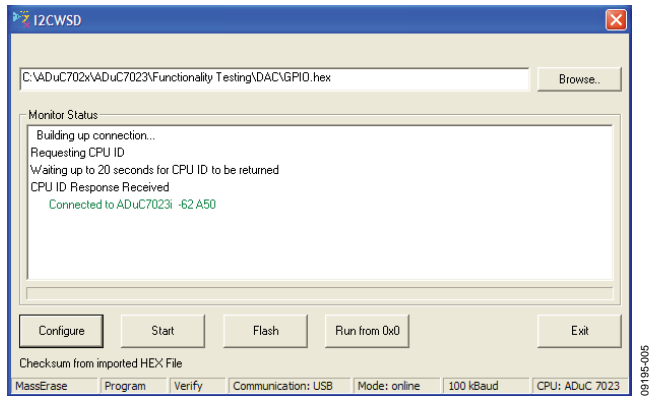

Figure 5. I2CWSD Application Showing a Valid ADuC7023 ID String Response
- Click **Start** in the I2CWSD dialog box to connect the I2CWSD download software with the ADuC7023 bootloader (see Figure 5).